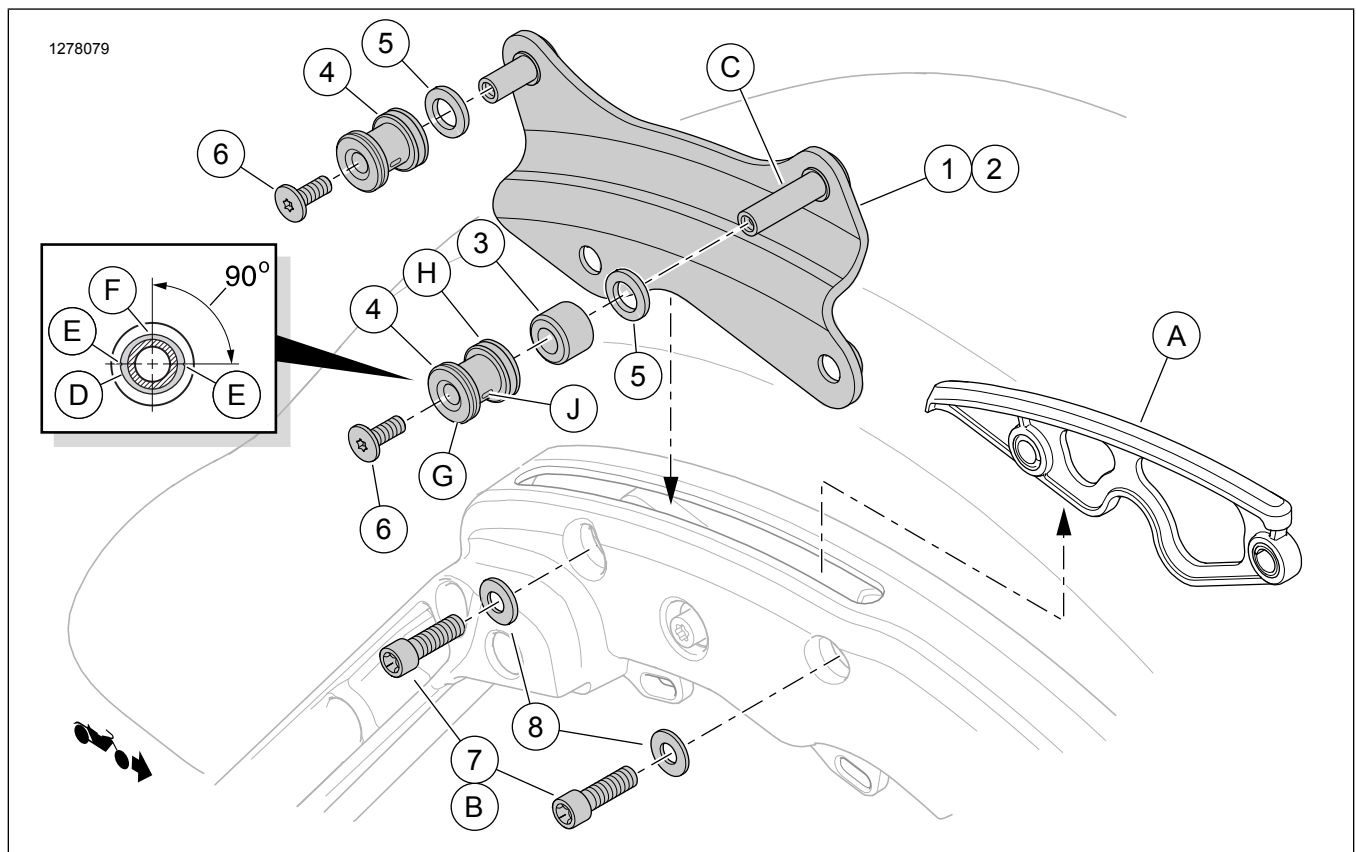
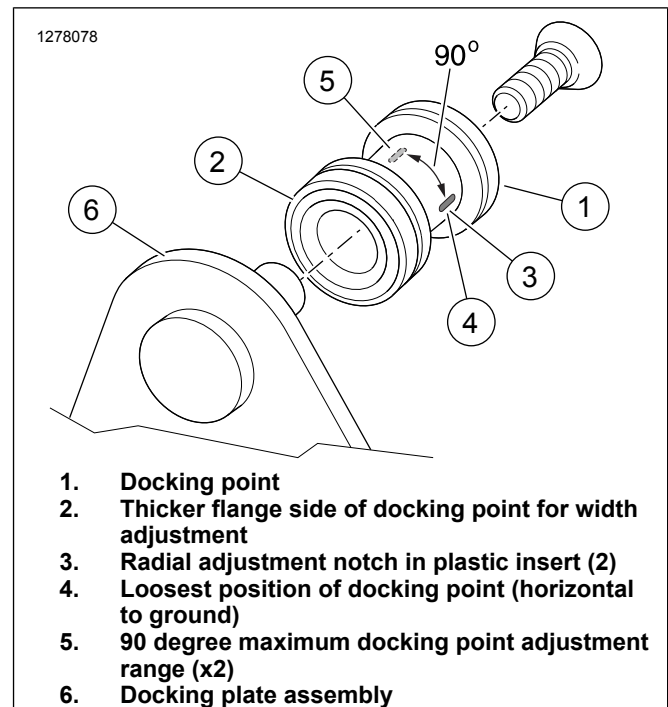

Figure 1. Kit Contents: Adjustable Four-Point Detachable Docking Hardware Kit
Figure 2. Docking Point Installation
3. See Figure 1. Remove two screws (B) from saddlebag support on each side.
4. Lift slot cover inserts (A) from locations.
See Figure 1. Do not install width adjustment spacers (5) at this time.
- a. Slide a spacer (3) onto long pin (C) of each docking plate.
- b. Slide a docking point (4), **thicker** flange (H) first, onto each docking plate pin.
- c. Install screws (6) into docking plate pins.
- d. See Figure 2. Rotate each docking point to position notches horizontally (4).
See Figure 2.
- b. See Figure 1. Remove screw (6) and docking point (4) from all four docking plate pins.
- d. Apply 2 or 3 drops of threadlocker to the threads of each screw (6). Install screws.
- e. See Figure 2. Rotate each docking point to position notches horizontally (4). Tighten screws until snug.
- a. See Figure 1. Remove all components from all four docking plate pins.
- b. Install width adjustment spacers (5) to each docking point.
- c. Install spacer (3) onto longer pin (C) of each docking plate.
- e. Apply 2 or 3 drops of threadlocker to the threads of each screw (6). Install screws.
- f. See Figure 2. Rotate each docking point to position notches horizontally (4). Tighten screws until snug.
- a. Loosen screws (6).
- b. See Figure 2. Rotate docking points (1) slightly away from horizontal (4).
- d. Continue to rotate slightly toward vertical (5) away from horizontal (4) until a tight fit is achieved at each location.
- 5. See Figure 1. Secure docking plate pin screws (6). Tighten.